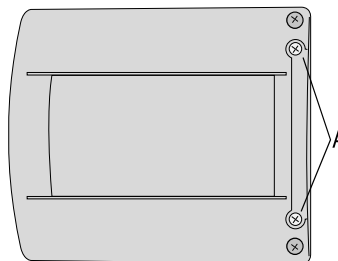

Figure 3
1. Remove the two securing screws (A in Figure 3).
1. Carefully separate the battery cover from the amplifier (Figure 3) and set it aside.